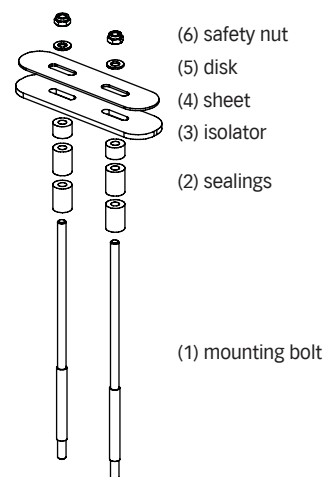

Fig. 20: assembly mounting bolts
Finally plug the distance pieces on the thruster. Insert the mounting bolts like illustrated in fig. 20 cutting them in the boat interior as necessary. Apply seals (2) according to the hull thickness (note: hull thickness + 25%). On hulls out of GRP and boreholes of 9 mm the seals (2) can be omitted by using suitable sealant (e.g. Sikaflex).